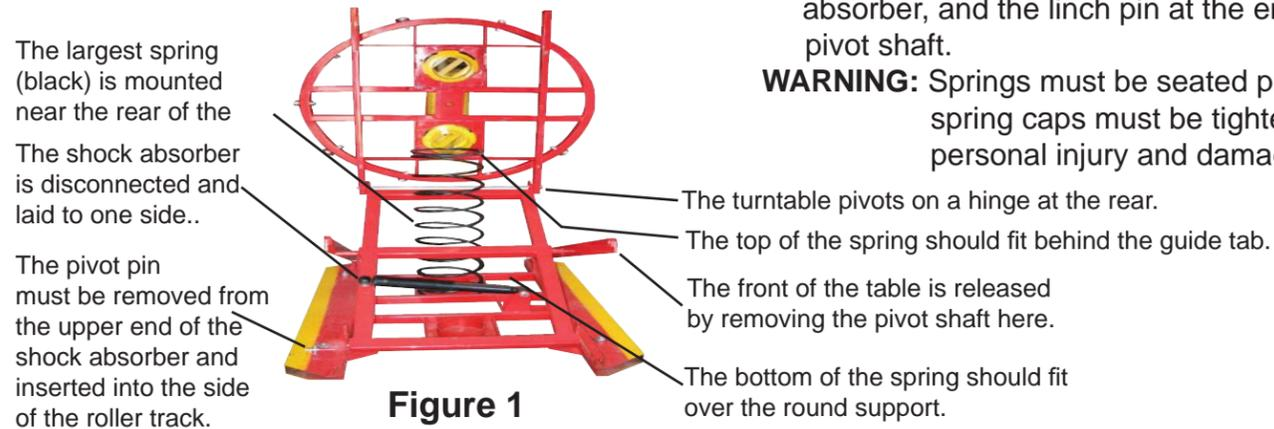

Figure 1
8. When installing the first (black) spring, use the shock absorber pivot pin to support the frame (Figure 1). This will prevent the frame from a sudden drop.
- Tilt the top frame assembly back as shown in fig. 1. Install the largest spring (black); this spring should be installed in the back of the unit, closest to the hinge. The bottom of the spring should fit over the round support on the base frame. The top should fit behind the small guide shown in fig. 1. When the spring is installed, slowly lower the table top. Check each end of the spring to be sure it has seated correctly.